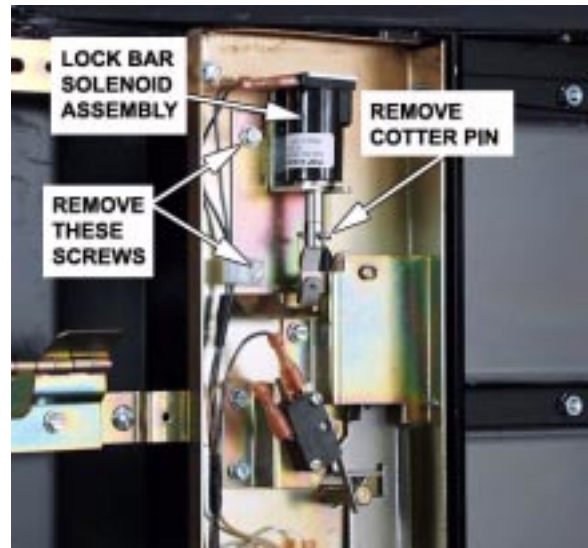

Figure 39
2. Disconnect the electrical leads from the lock bar solenoid assembly (figure 39).